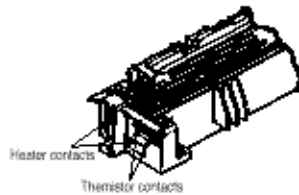

Fig. 6-2
- Yes Is the thermistor open or shorted? Measure the resistance between thermistor contacts (heater contacts 120V/3Ω or 240V/10Ω, and thermistor contacts 220KΩ at room temperature) (see Fig. 6-2 or Section 7.3).
- No Is the AC voltage being supplied to the contacts for the heater of the contact assembly? (see Fig. 6-2)